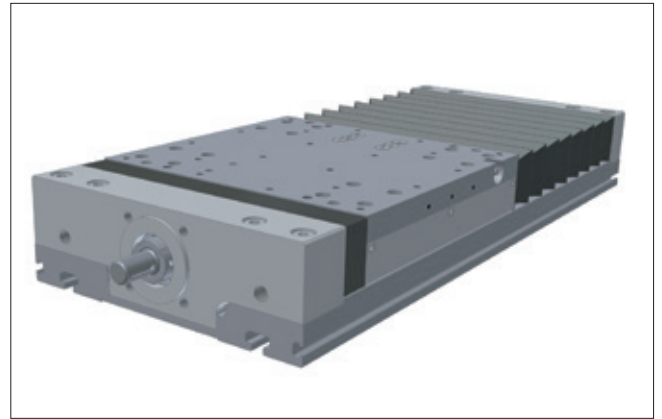

Figure 5.10 __ AXLT with bellows
- Optimal protection of the inside placed guiding and drive elements as well as the inductive switches by the optional use of bellows (Figure 5.10)